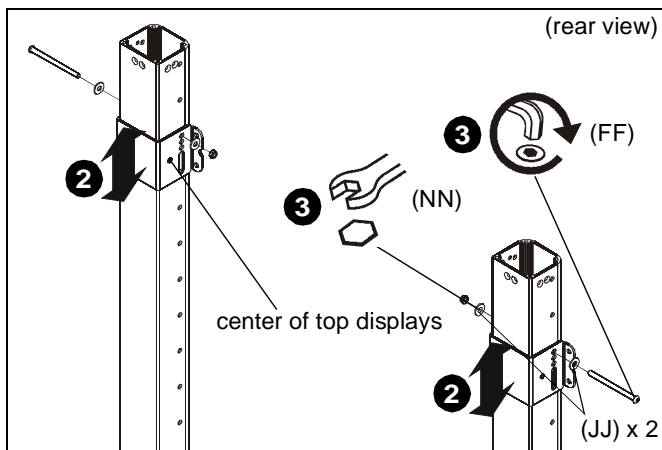

Figure 8
2. Place clamp brackets (P) on columns in the position of where the center of the top displays will be on the cart with the diamond on the brackets being placed at the exact center location. (See Figure 8)
3. Use 5/16-18 x 4 1/2" button head cap screw (FF), two 5/16" washers (JJ) and 5/16-18" lock nut (NN) to secure each clamp bracket (P) to column. (See Figure 8)